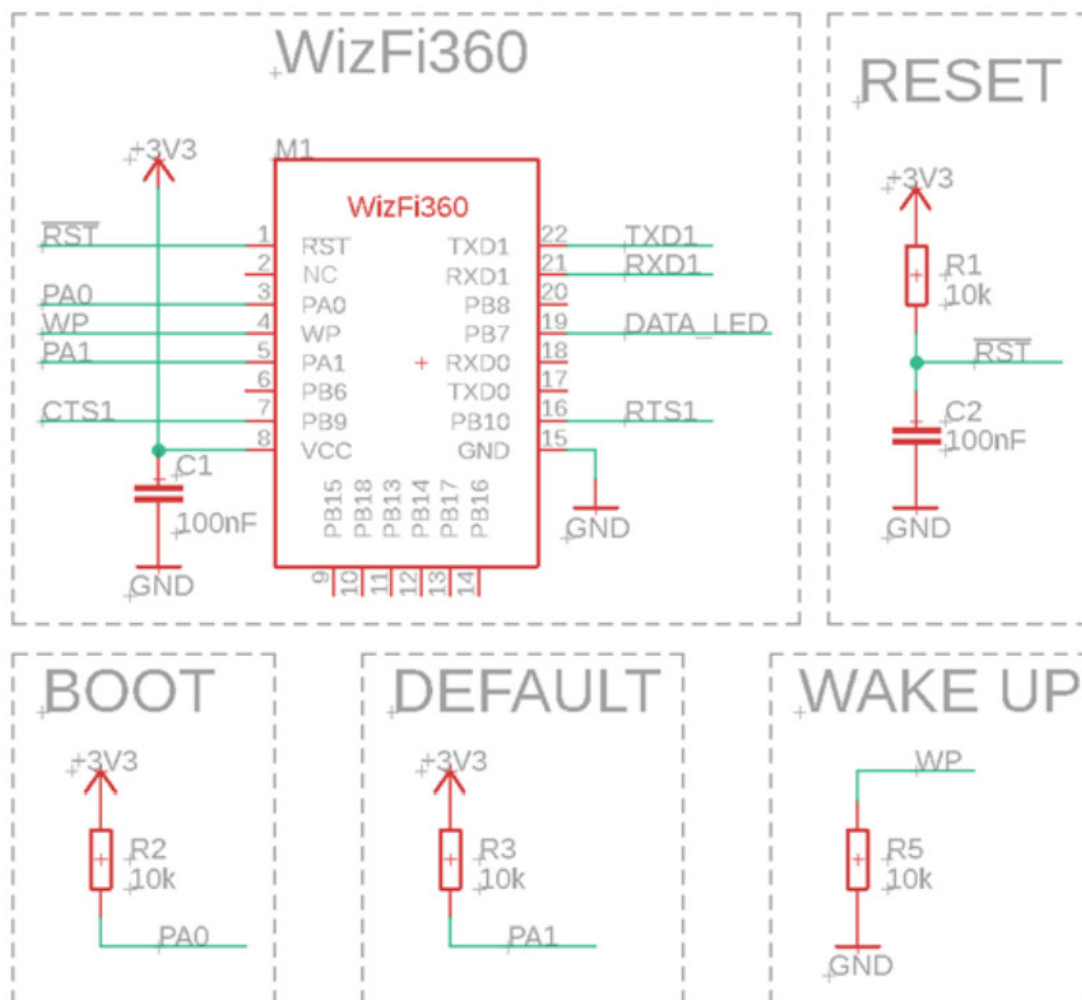
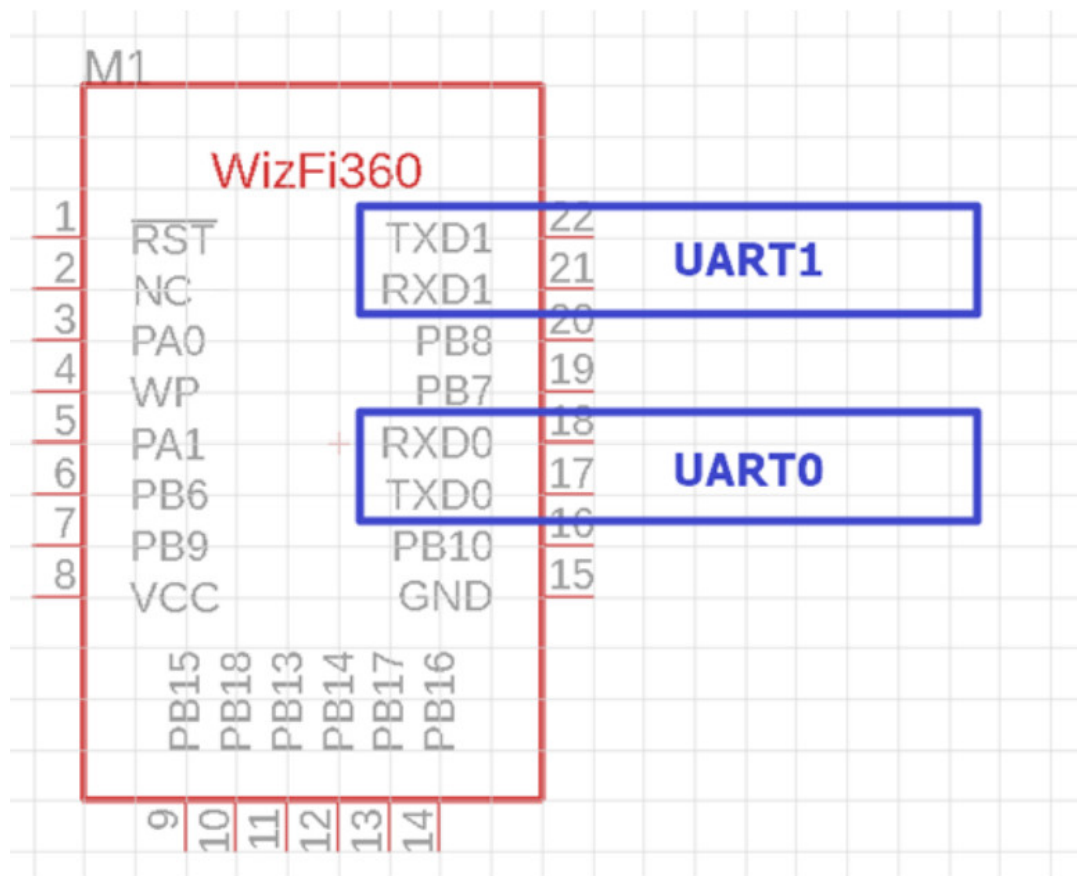

Figure 6. Reference Schematic
Figure 7. UART
- Figures. 6 and Figures. 7 are 2 antenna placement which can best performance of antenna. We suggest customers to choose one of these 2 modes to design the placement. For the second placement mode, PCB antenna should be at least 5.0mm from both sides of the bottom board.